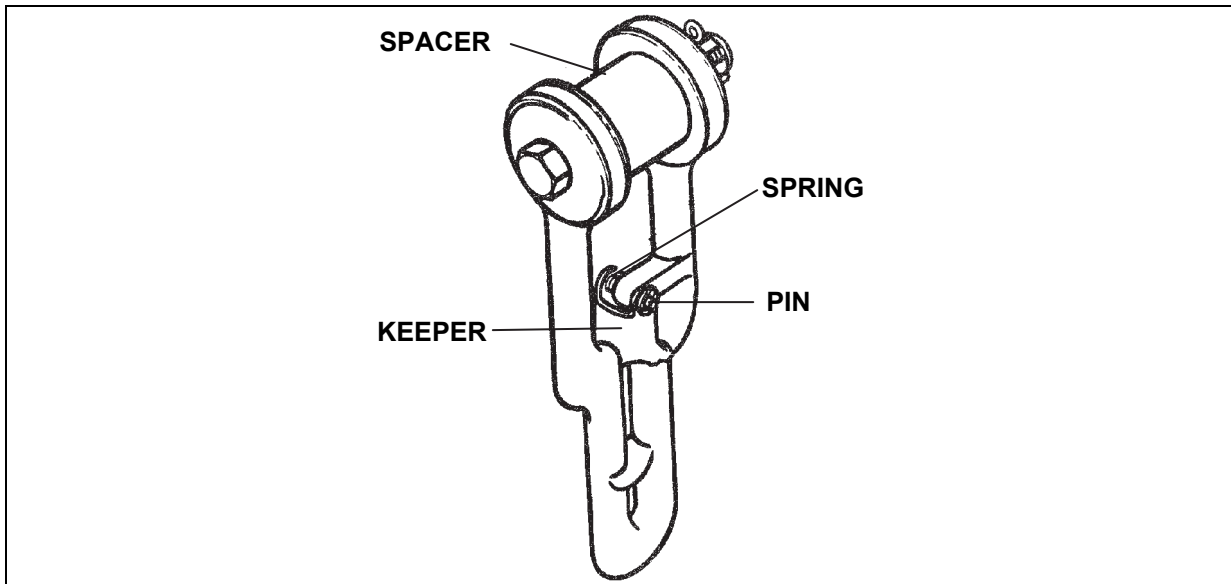

Figure 6-33. Grab Link
- Grab Link.** Each sling leg has a grab link (figure 6-33) connected to the lower eye of the sling leg. The grab link attaches the sling leg to the chain section and permits varying the length of the chain. The grab link is attached to the lower eye of the sling leg with a bolt and spacer which are held in place by a castellated nut and cotter pin. The bottom of the grab link has an eye through which a coupling link is inserted to attach the chain leg. The length of the chain is varied by passing the chain through the lifting provision, back through the center opening of the grab link, and inserting the chain link that matches the desired leg length into the slot below the keeper. The keeper is not a load bearing component, but only serves to keep the chain in the grab link under a no-load condition. The chain leg is held in position by the locking action of the chain link in the slot under the grab link keeper.